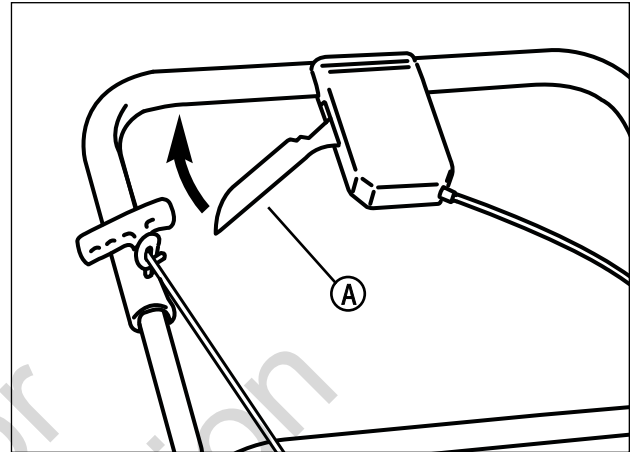

Figure 12: Operating the front wheel drive system
2. Pull the drive lever (**A**, Figure 12) completely back. The drive system is now engaged.